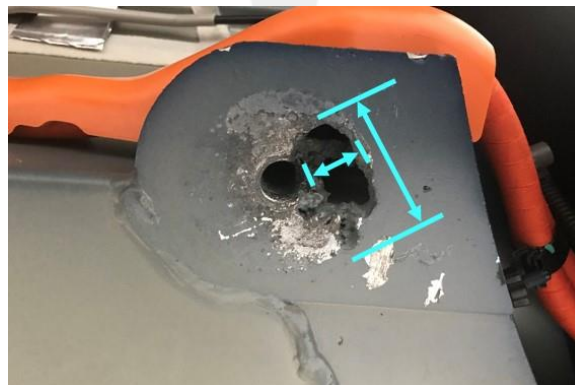

Figure 3
- a. Measure the length and the width of the damaged area on the bottom face of the node (Figure 3).